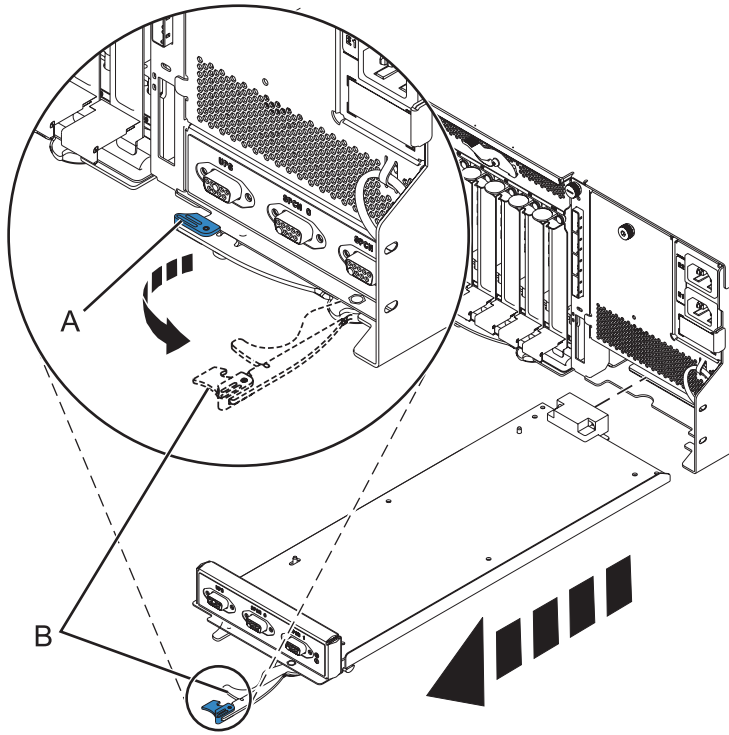

Figure 90. Remove the enclosure management controller
- b. Pinch the latch (A) to unlock the handle (B). See Figure 90 on page 107.